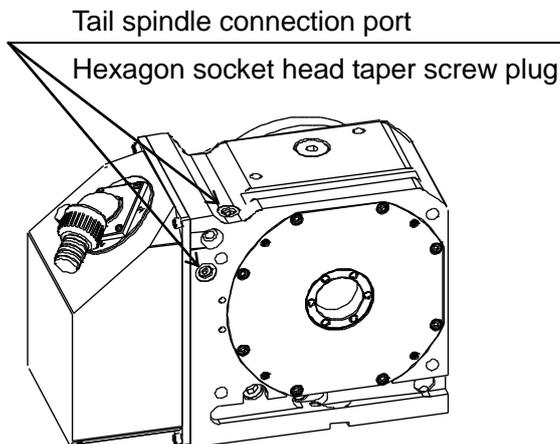

Fig.2
- 1) Cover the hexagon socket head taper screw plug 1/4 (Fig.2) of tail spindle connection with waste, and remove it slowly with the hexagon wrench to exhaust the air pressure. After exhausting the air pressure, securely tighten the removed hexagon socket head